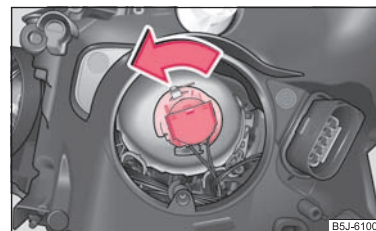

Fig. 169 Removing the light bulb for the low beam light
- Turn the connector with the light bulb up to the stop towards the left ⇒ page 201, fig. 169 and remove.